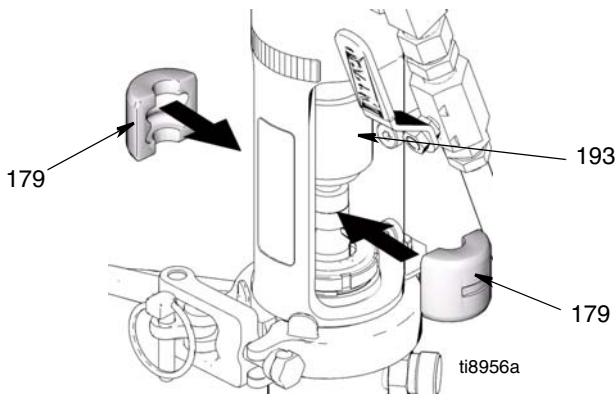

FIG. 24
5. (Fig. 24) Slide coupler cover (193) up to expose pump rod. Install rod couplers (179) over rod.